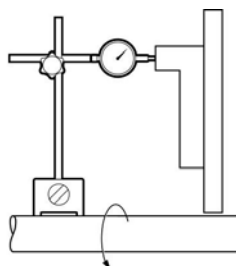

Figure 4
- 3.1.3 Perpendicularity of Mounting Bracket:** With the dial indicator mounted to the shaft, place the indicator tip on the face of the mounting bracket/surface and rotate the shaft. The T.I.R. (Total Indicated Reading) should have a maximum value shown in **Table 10 value A**. See **Figure 4** below.